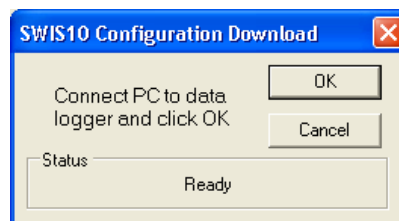

Figure 26 - Configuration Download Dialog
1. Choose **Setup** ➔ **Data Logger** from the main menu. The Configuration Download Dialog (Figure 26) appears.